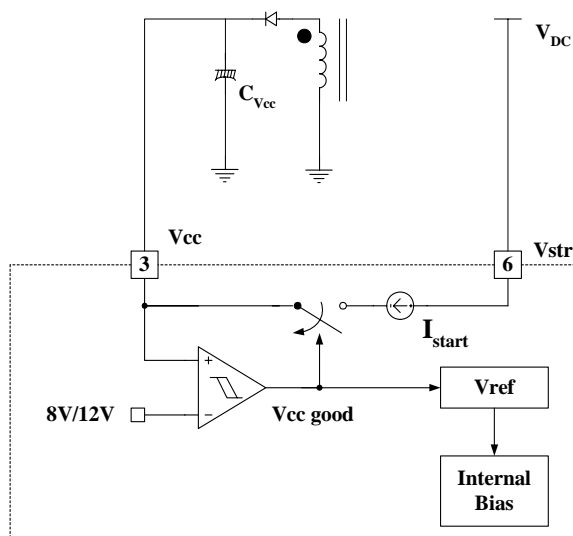

Figure 4. Internal startup circuit
1. Startup : In previous generations of Fairchild Power Switches (FPSTM) the Vcc pin had an external start-up resistor to the DC input voltage line. In this generation the startup resistor is replaced by an internal high voltage current source. At startup, an internal high voltage current source supplies the internal bias and charges the external capacitor (C_{Vcc}) that is connected to the Vcc pin as illustrated in Figure 4. When Vcc reaches 12V, the FSDM0565RB begins switching and the internal high voltage current source is disabled. Then, the FSDM0565RB continues its normal switching operation and the power is supplied from the auxiliary transformer winding unless Vcc goes below the stop voltage of 8V.